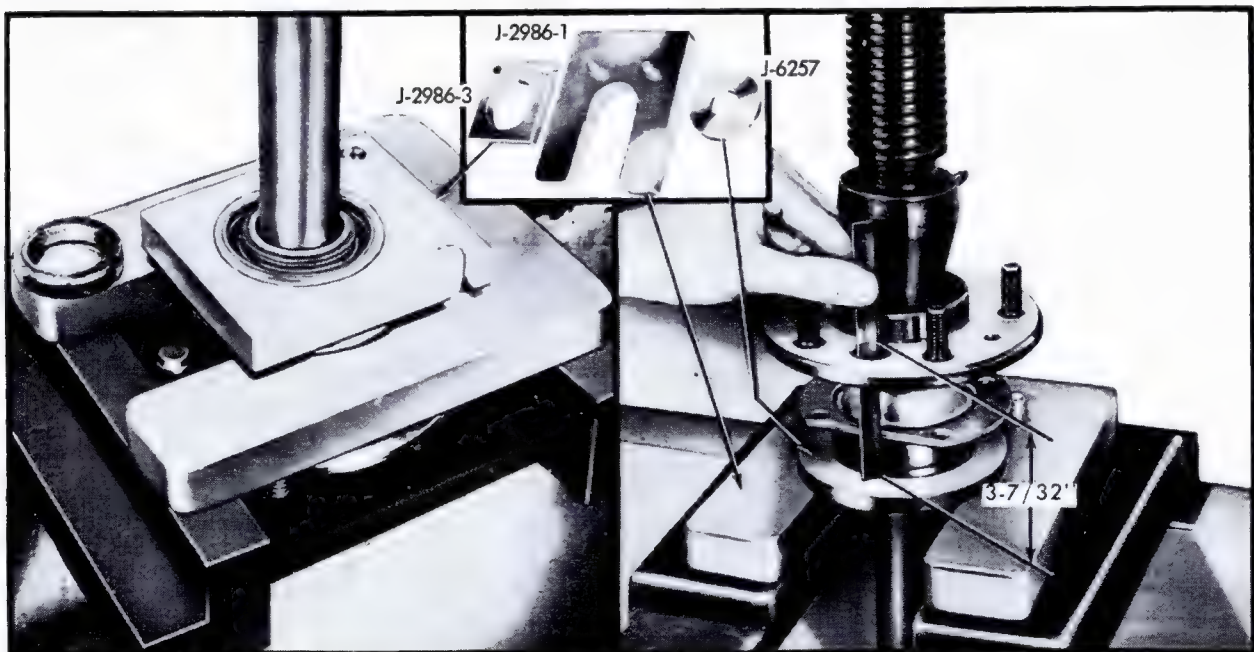

Fig. 4-33 Removing and Installing Rear Wheel Bearing
4. Install Rear Wheel Bearing Holding Tool, J-2986-3, around bearing and over dowels, Fig. 4-33.
8. Insert axle shaft through ring of Bearing Installer, J-6257, and U-shaped piece of Bearing Plate and Pin Assembly, J-2986-1, and place on arbor press, Fig. 4-33.
9. Press bearing on shaft so that there is 3-7/32 inch clearance between outer surface of axle shaft flange and inner end of wheel bearing inner race, Fig. 4-33.